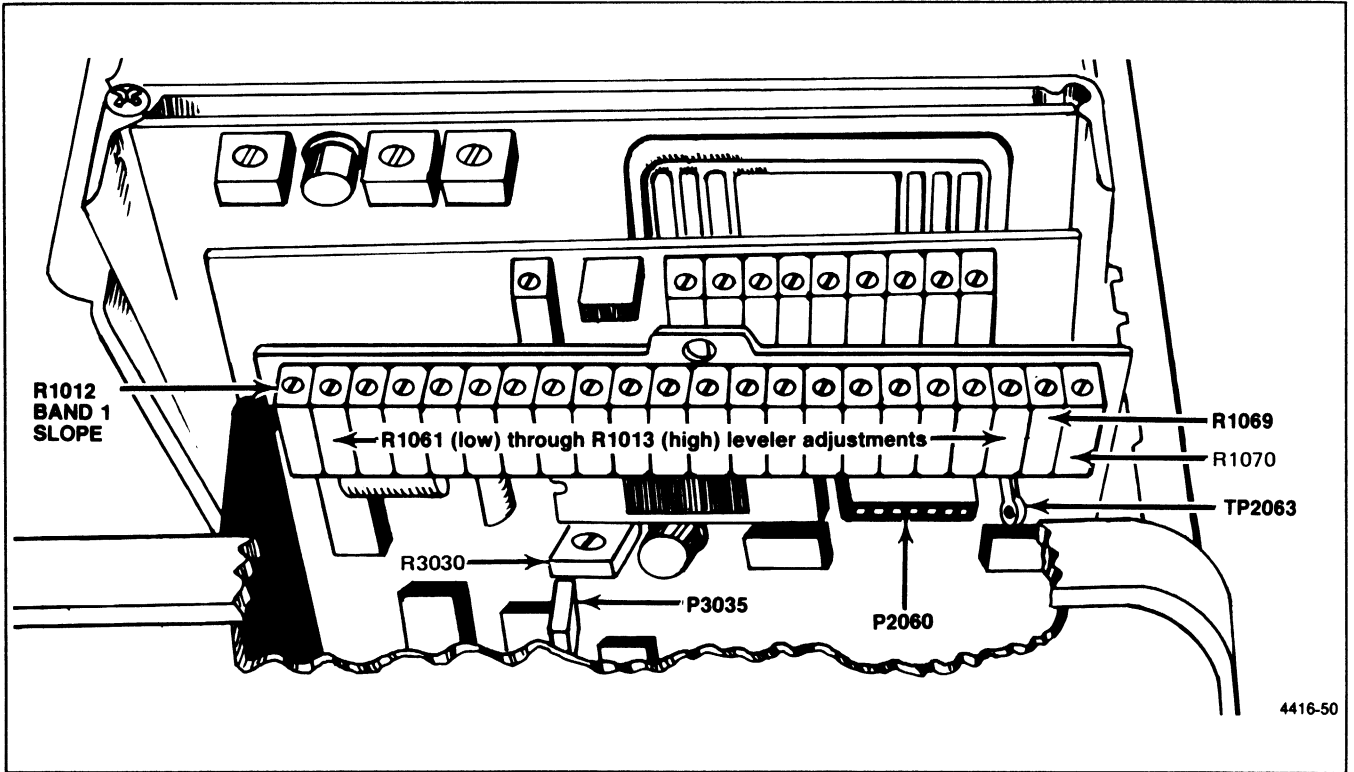

Figure 6-23. Video Processor board adjustment locations.
4. Remove P3035 (Leveler Disable) from the Video Processor board (Figure 6-23).
8. Move P2060 (Figure 6-23) to the Invert Mode position (one pin to the left), and replace P3035.